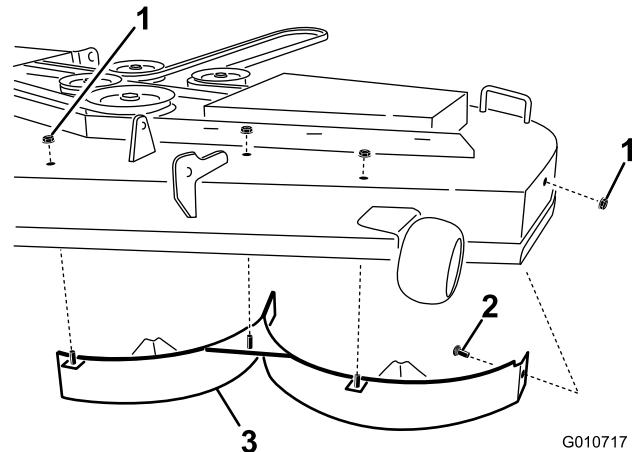

Figure 4
12. Install the left baffle to the mower deck as shown in Figure 4. Use three lock nuts (5/16 inch) to secure the welded posts of the right baffle to the top of the mower deck at the center, left of center and left positions. Hand tighten the fasteners.